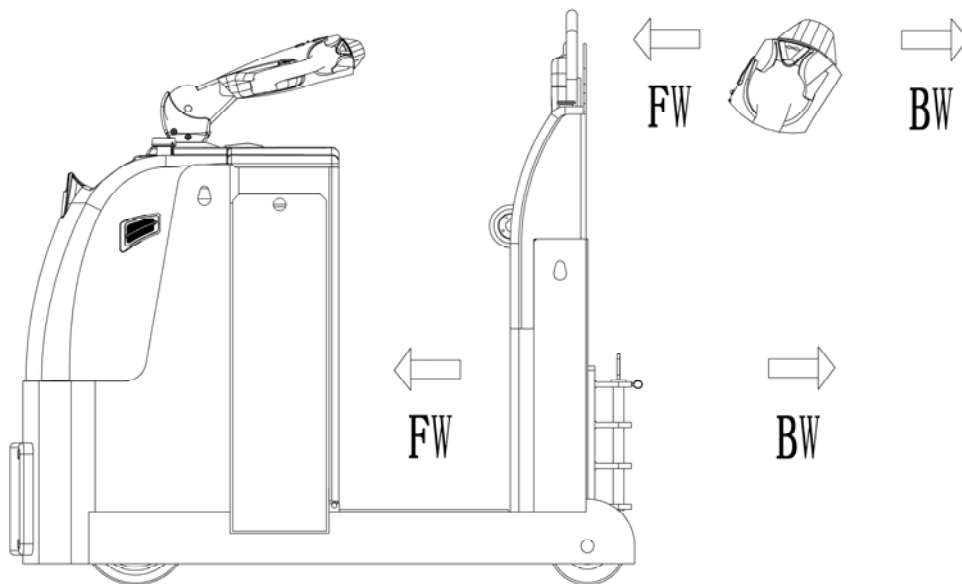

Fig. 8: Operating direction
Turn the accelerator button (19) to the desired direction forward 'Fw.' or backwards Bw.'(fig. 8).